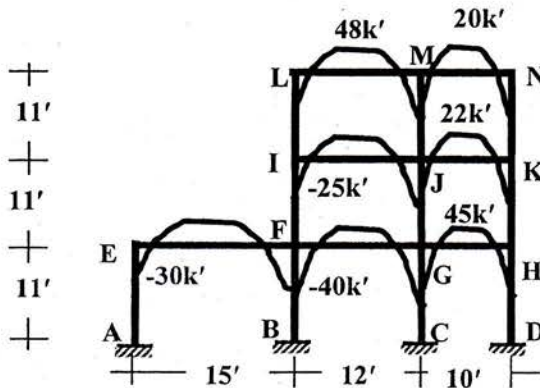

Figure 1
- [1] In Figure 1, determine the corresponding uniformly distributed loads and missing moments value by using approximate vertical load analysis. Also draw the axial force diagram of columns LIFB and MJGC. (20)